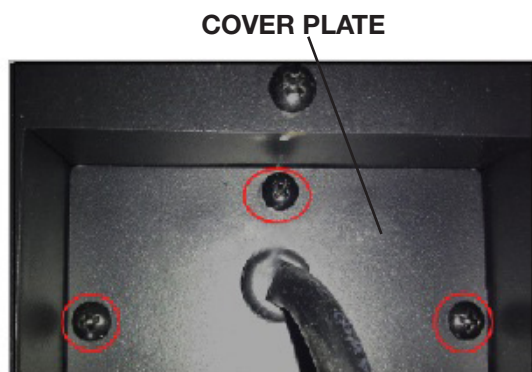

FIG. 1
- A. Remove the cover plate from the right side bottom of the appliance by removing the 3 screws (FIG. 1).
- E. Reinstall the cover plate using the 3 screws (FIG. 1).